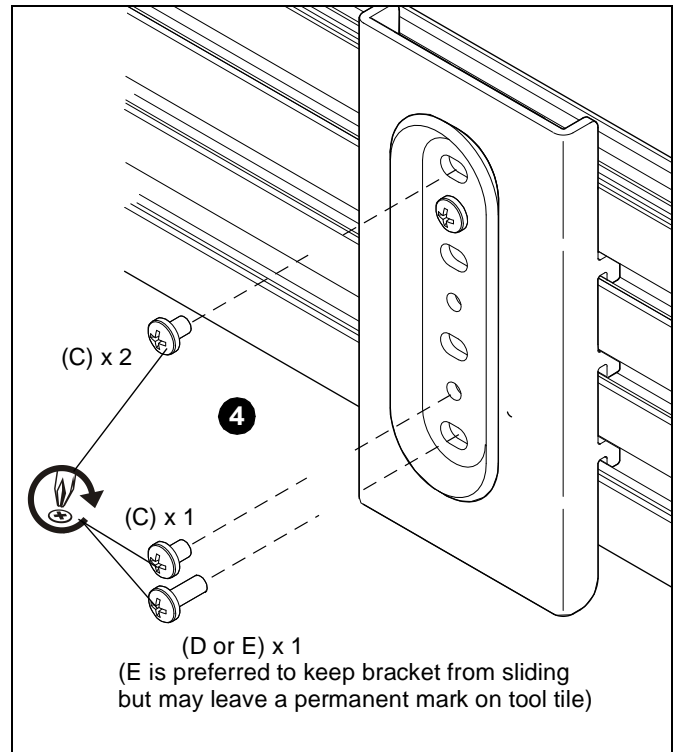

Figure 3
7. Secure to wall bracket (B) and Lower wall bracket (A) using a Phillips screw driver and two 10-24 x 1/2", one 10-24 x 5/8", and one 10-24 x 3/4" Phillips pan head screw (C). (See Figure 3)